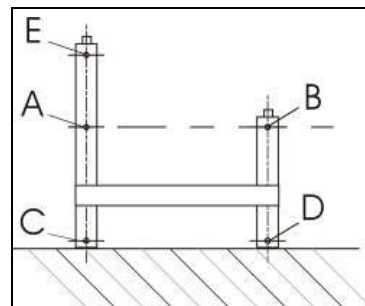

Figure 3.
3. Using the wall mounting bracket as a template for positioning, place the bracket on the bottom of the wall. Mark the screw-holes through the holes marked **A** and **B** as shown in Figure 3.